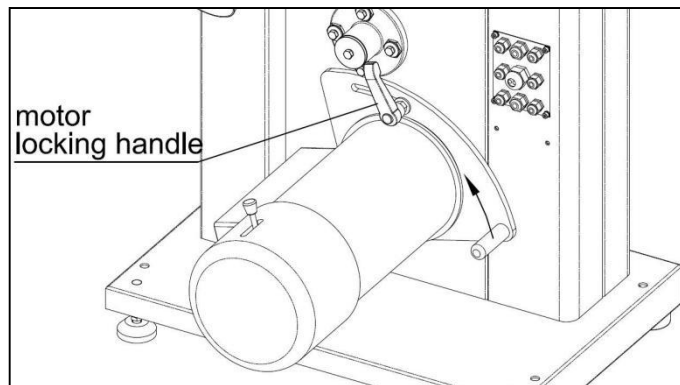

Fig. 11-1
**1.** As shown in Fig. 11-1, loosen the motor locking handle.
**2.** As shown in Fig. 11-1, loosen the motor locking handle.